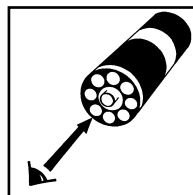

Figure 3
4. Place the ULR CHEMet ampoule, flat end downward into the center tube of the comparator. Direct the top of the comparator up toward a source of bright light while viewing from the bottom. Rotate the comparator until the color standard below the ULR CHEMet ampoule shows the closest match (fig 3). If the color of the ULR CHEMet ampoule is between two color standards, a concentration estimate can be made.